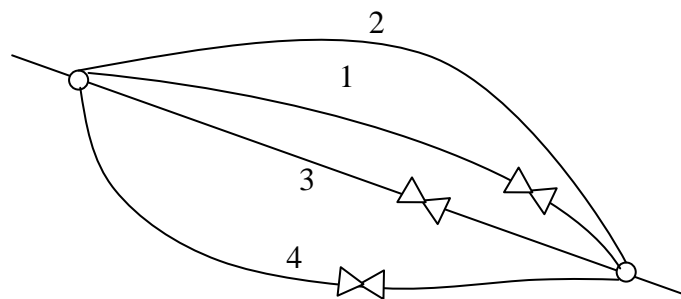

Figure 12: Flow distribution in the parallel network
6. Find the flow distribution in the parallel network shown in Figure 12. Assume constant friction factors. The change in hydraulic grade line between A and B is $(p/\gamma + z)_A - (p/\gamma + z)_B = 50$ m.